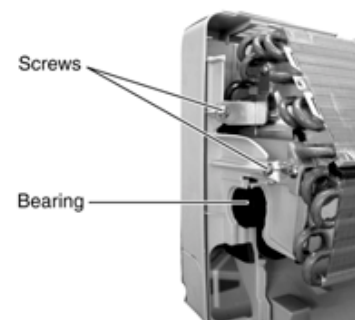

Fig. 8
6. Remove the Bearing. (Fig. 8)
7. Remove the screws at the left of the Evaporator. (Fig. 8)